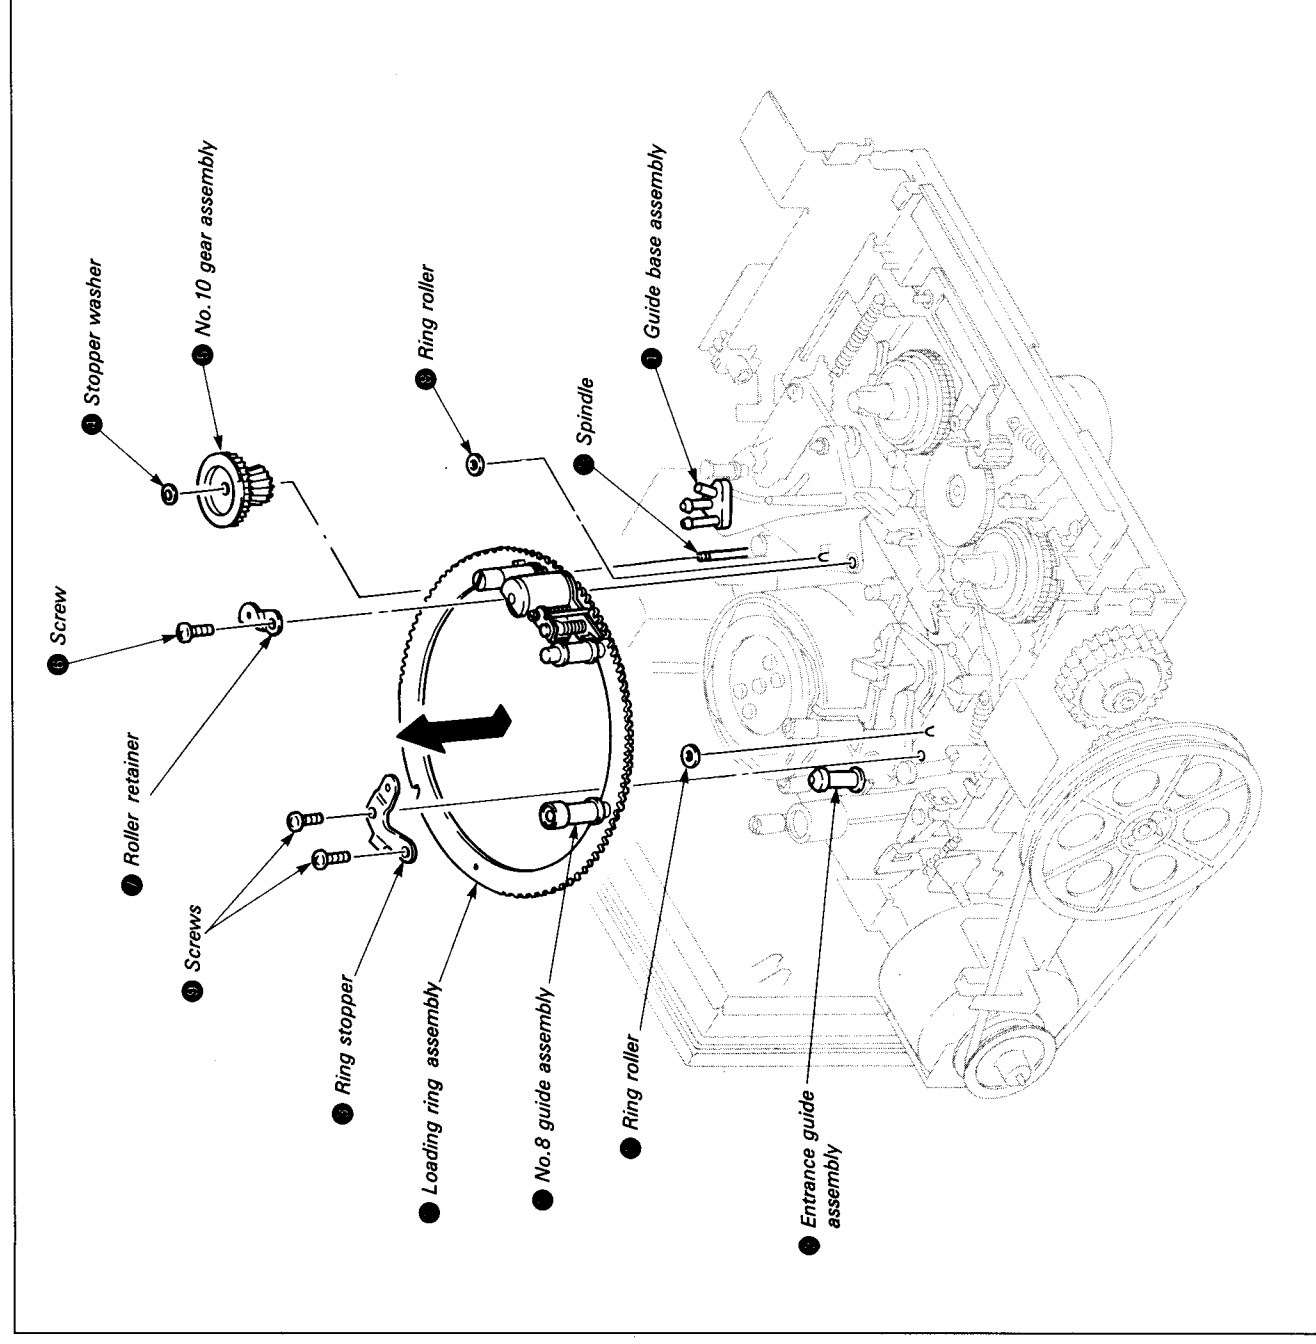
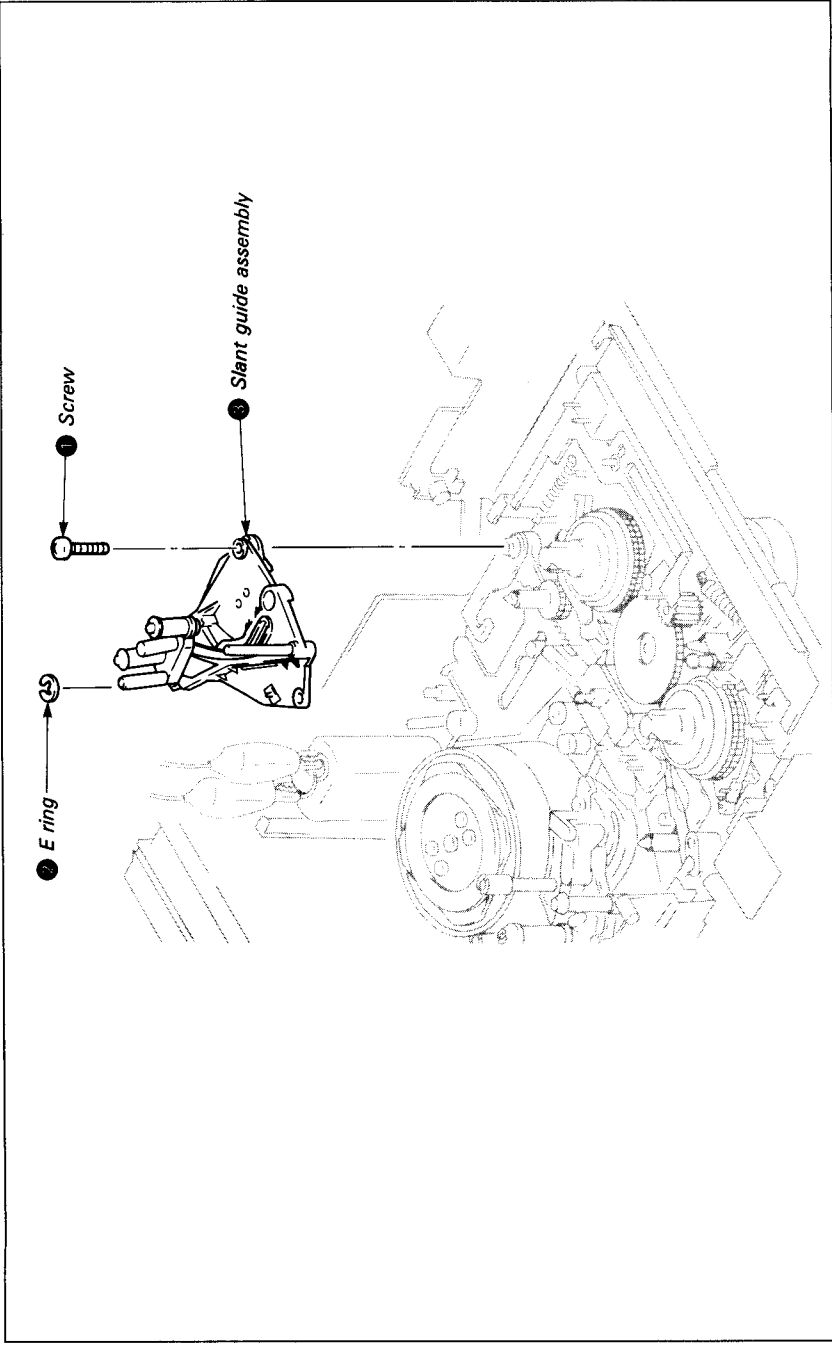

Fig. 7-12.
Fig. 7-26.
7-3-7. Loading Ring Assembly (See Fig. 7-12, 13.)
- 3) Operate the mode selector, and move the guide base assembly ① until just before lock, and the entrance guide assembly ② until just before lock where the ring stopper ③ screw is visible. (Do not move loading ring assembly ④.)
- 4) Remove the stopper washer ⑤ and remove No. 10 gear assembly ⑥.
- 5) Remove screw ⑦ and the roller retainer ⑧ and ring roller ⑨.
- 6) Remove the two screws ⑩ and the ring stopper ⑪ and ring roller ⑫.
- 7) Remove the loading ring assembly ⑬ as shown by arrow. (See Fig. 7-12.)
- 4) Place a half drop of oil on the spindle ●. (See Fig. 7-12.)
- 1) Remove the loading ring assembly as described in 7-3-7., 1. Removal. (See Fig. 7-12.)
- 6) Mount the loading ring assembly according to 7-3-7., 2. Mounting. (See Fig. 7-12, 7-13)
7-3-9. Slant Guide Assembly (See Fig. 7-26 ~ 28.)
- 1) Remove the loading ring assembly according to 7-3-7., 1. Removal. (See Fig. 7-12.)
- 2) Remove screw ❶ and E ring ❷.
- 3) Remove the slant guide assembly ❸. (See Fig. 7-26.)
- 3) Mount the E ring ❷ and tighten screw ❶. (See Fig. 7-26.)
- 5) Mount the loading ring assembly according to 7-3-7., 2. Mounting (See Fig. 7-12, 7-13.)